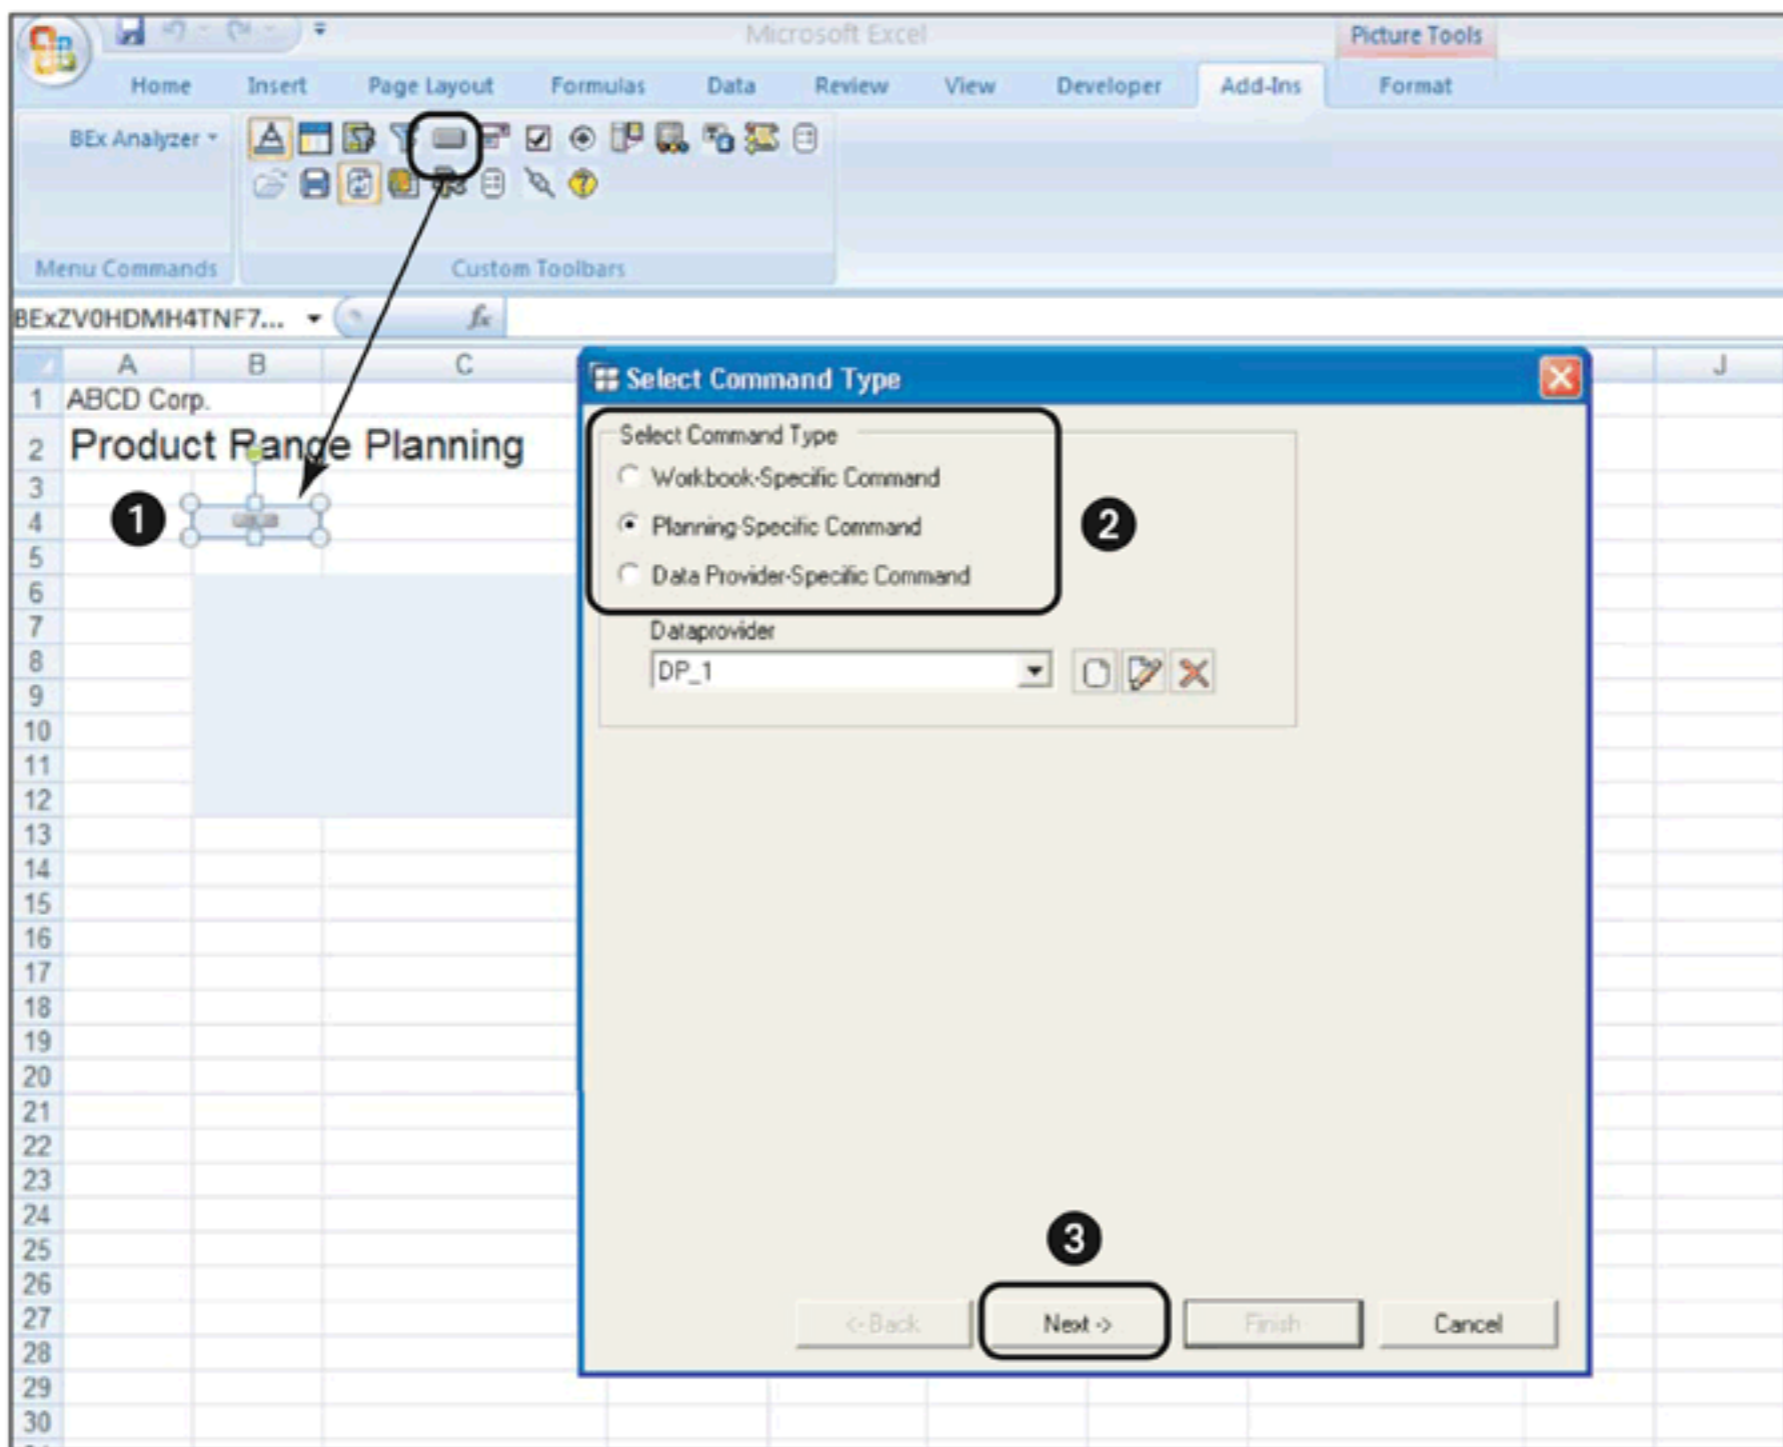
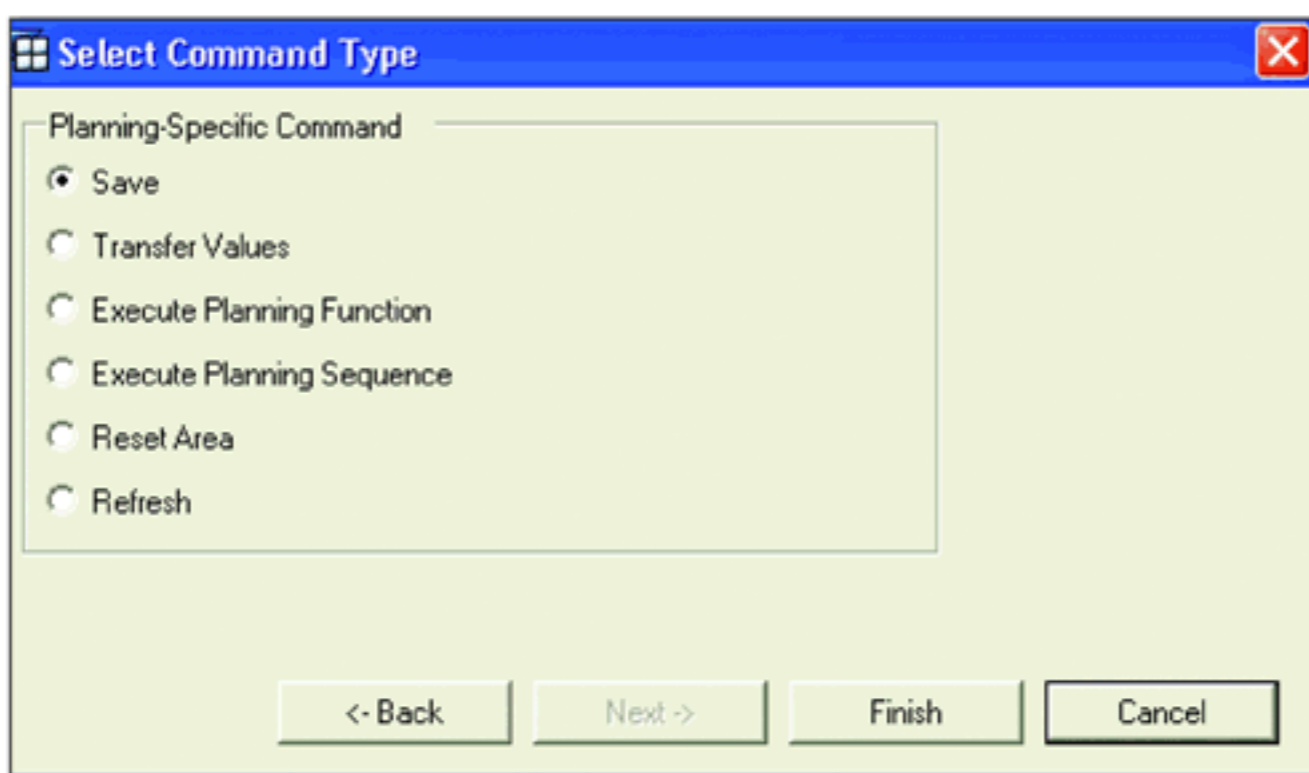

Figure 12.65 Assign Planning-Specific Command to Button Design Item
Figure 12.66 Select Command Type
With the previous step, the manual entry layout is made available in the application. Now, let's build some command buttons in this planning application. The first command button used in almost all planning applications is the SAVE command. Insert a button design item from the BEx design toolbar into the layout (❶ of Figure 12.65). We can assign the command to this button in the item properties. Go to the design item properties from the context menu of the newly inserted button, and select the PLANNING-SPECIFIC COMMAND radio button (❷). Then click on NEXT to define further settings (❸).
The next screen shows the different planning commands that can be assigned to the button (Figure 12.66). Select the radio button for the SAVE command, and click on FINISH. This assigns the SAVE function to the button added.
Let's now try to add another command button that will execute a planning function to copy the plan values from the previous year. The procedure is the same as shown in Figure 12.65 and Figure 12.66. First insert the button design item in the workbook, and then select the EXECUTE PLANNING FUNCTION command type from the DESIGN ITEM PROPERTIES screen. Click on NEXT to further customize the properties.